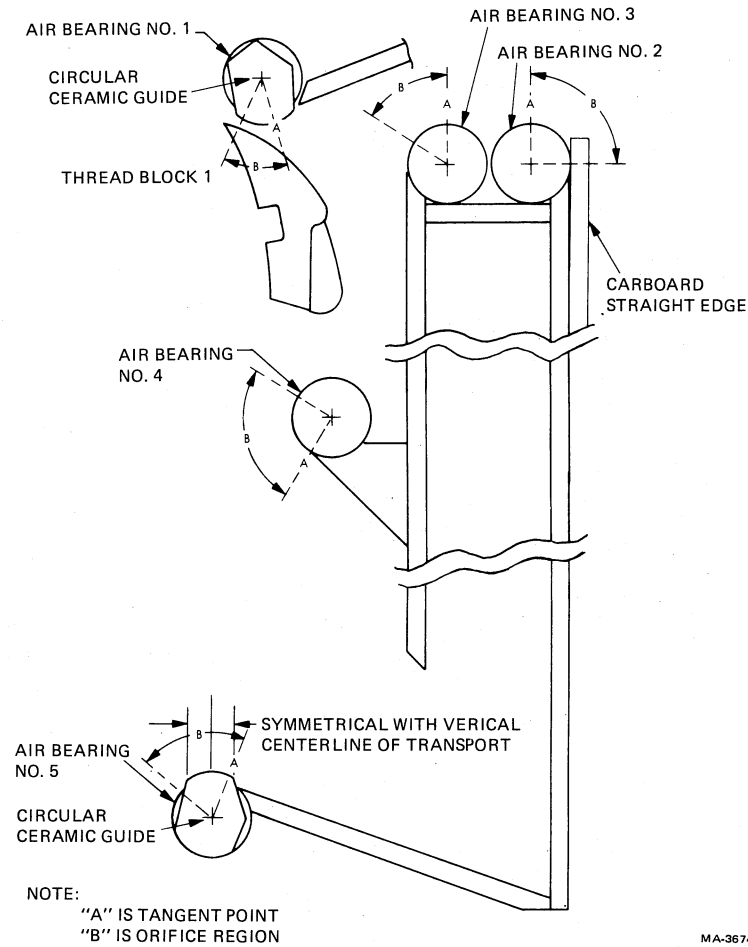

Figure 6-47 Air Bearing and Ceramic Guide Orientation
There are five air bearings, excluding the air guide (Figure 6-47). The air guide disassembly and cleaning procedure is given in Paragraph 6.7.3. The air bearing procedure describes removal of the air bearings for cleaning. Since there are three different bearing versions on a transport, they should be disassembled and reassembled one at a time.
2. Remove air bearing Number 1 (Figure 6-47). Clean parts using 91 percent isopropyl alcohol and a lint-free cloth. Examine air bearing orifices by inserting a penlight into the bearing. Open clogged orifices using 30 AWG wire. Clean all surfaces of the air bearing, the circular ceramic guide (where used) and the bearing mounting area on metal overlay of the base assembly.
Rest cardboard against adjacent buffer box bar and bearing until first row of orifices are tangent to cardboard (Point A), and remaining orifices are in tape path area regions to float the magnetic tape (Area B). The shiny side of ceramic guide is mounted towards the magnetic tape. Align ceramic guide as shown in Figure 6-47.